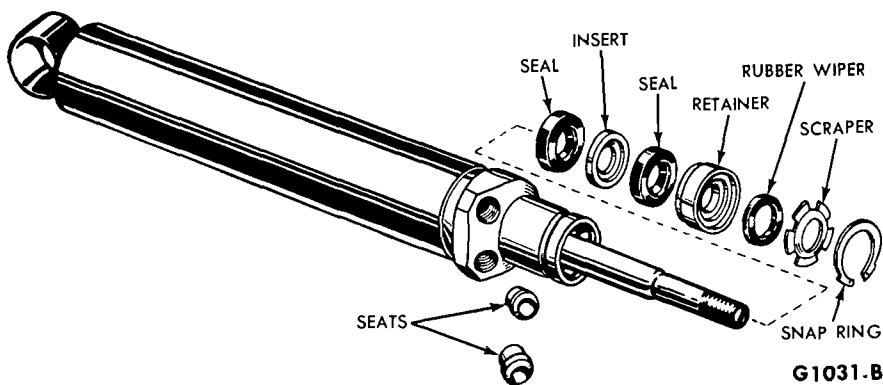

FIG. 17—Power Cylinder
1. Coat the new seals with lubricant COAZ-19553-A and place the parts (Fig. 17) on the piston rod which has been coated with the same grease.